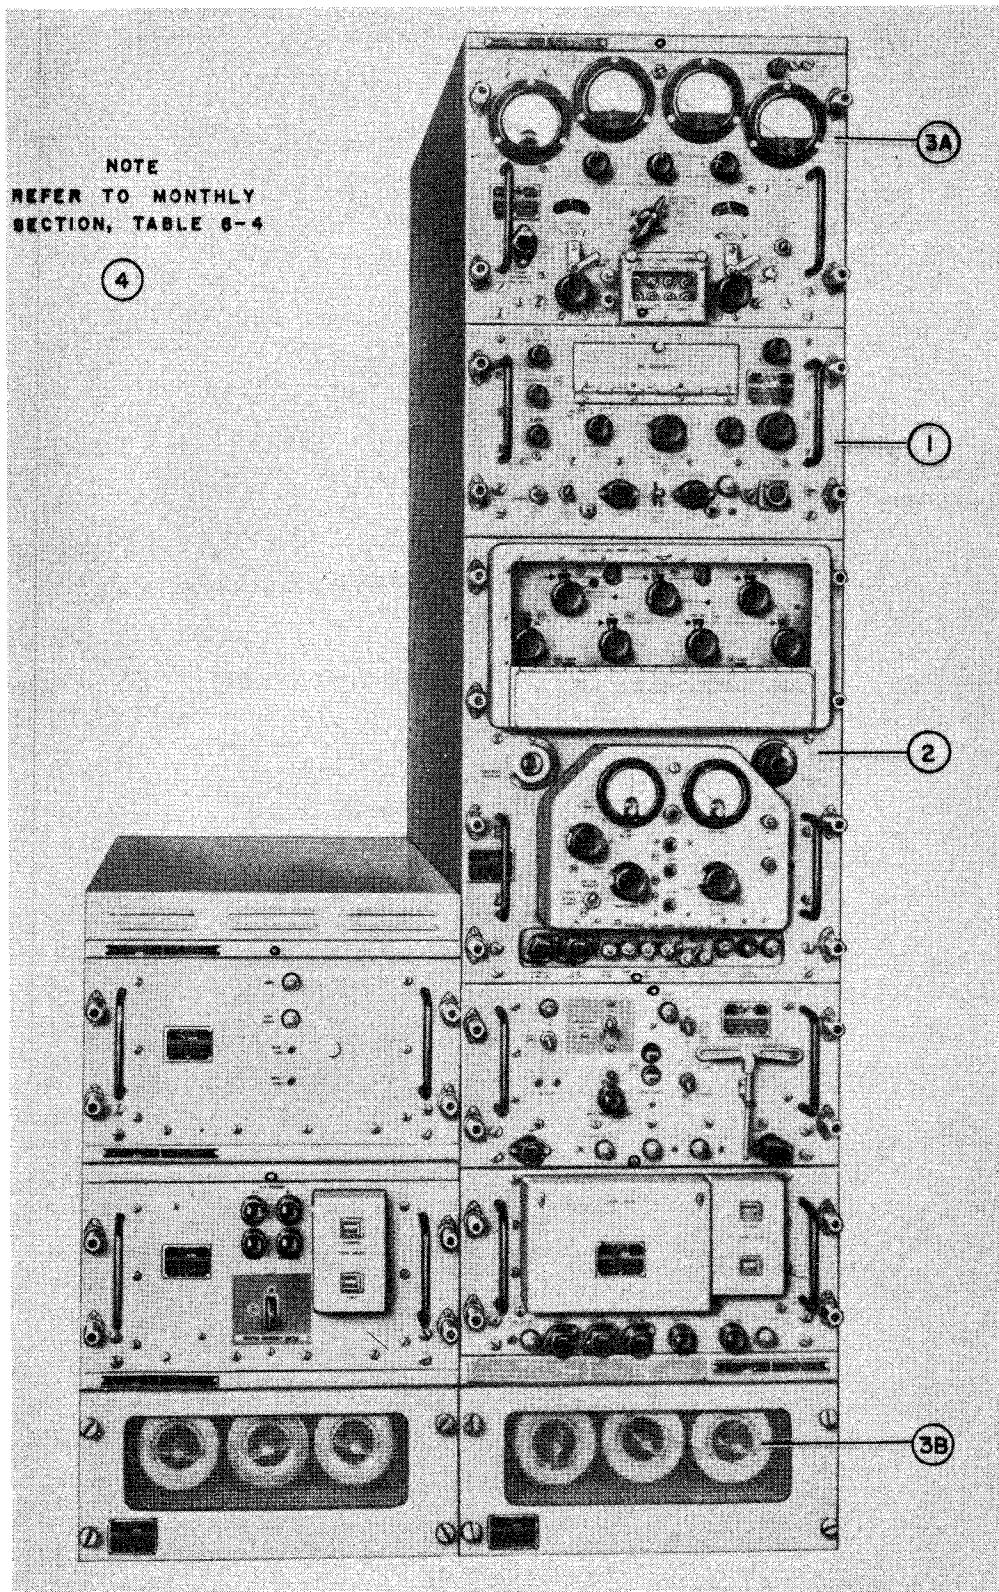

Figure 6-5. Monthly Routine Maintenance Checks, AN/SRT-15 Transmitter Bay
(See 1, figure 6-5.)  Step 1. Refer to paragraph 2a, Section 5, table 5-2, Preliminary Control Positions, and check transmitter controls against this table.
2. Radio Frequency Oscillator O-275/SRT (RFO) a. Test Jack Voltages	(See 2, figure 6-5.)  Refer to paragraph 4f, table 6-9, RFO Unit Test Jack Voltages.
b. Unit Checks and Adjustments	(See 2, figure 6-5.)